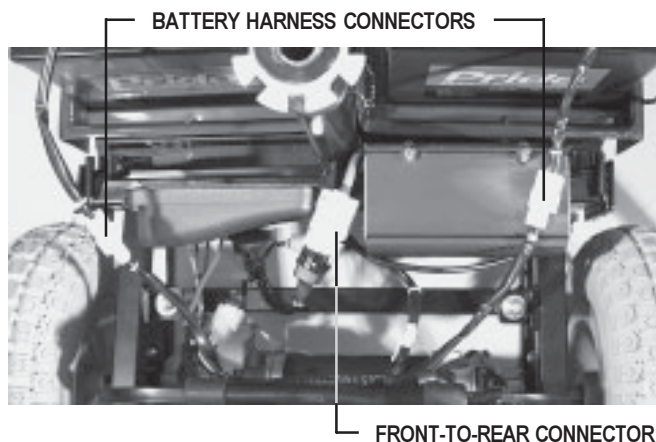

Figure 13. Cable Connections
5. Unplug both battery harnesses. See figure 13.